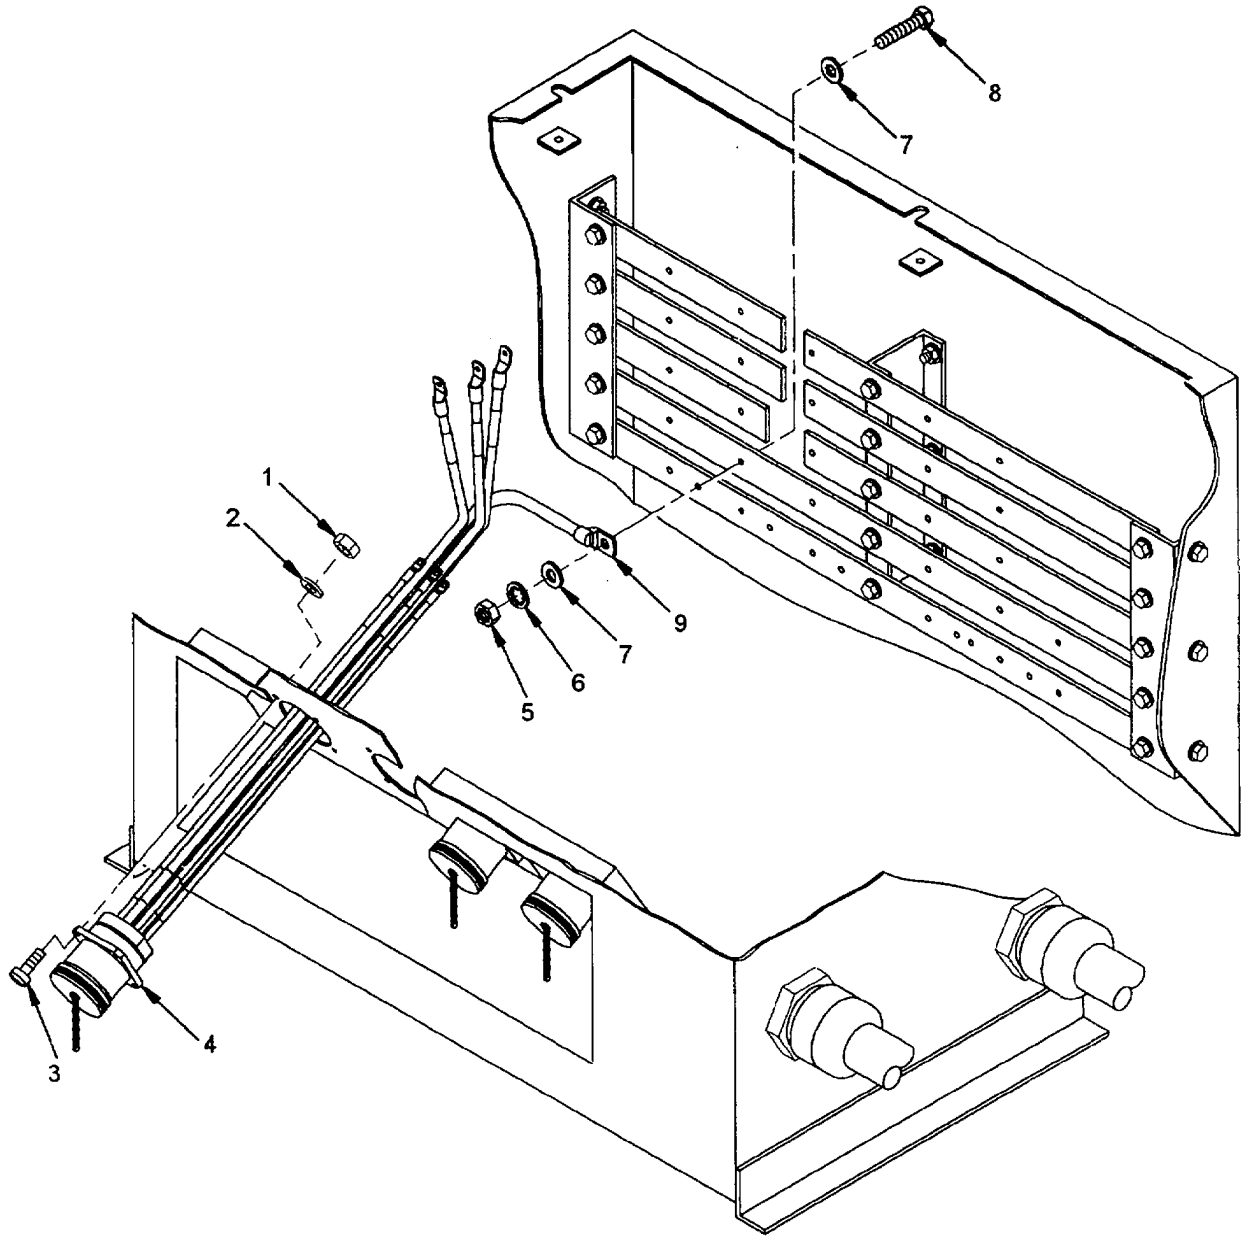

Figure 5-5. Wiring Harness Maintenance.
2. Remove four self-locking nuts (1, figure 5-5), flat washers (2), and screws (3) securing wiring harness (4) to switch box.
3. Remove nuts (5), lock washers (6), flat washers (7), and screws (8) securing terminal lugs (9) to bus bar assembly.